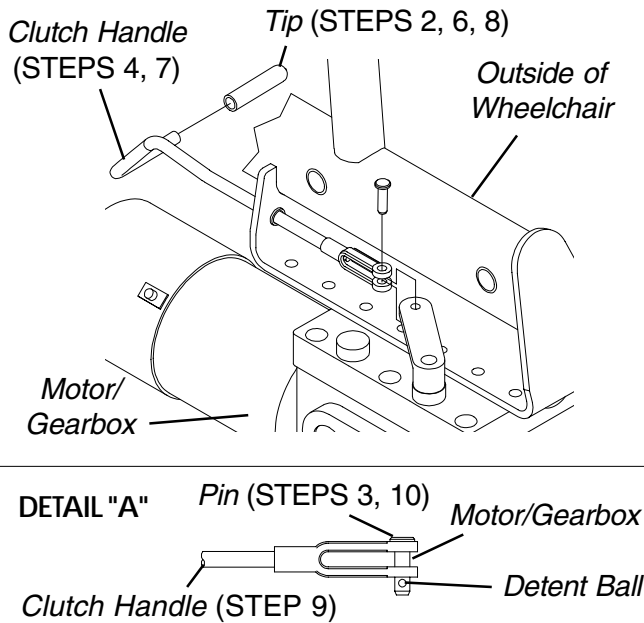

FIGURE 21 - REPLACING CLUTCH HANDLES - RANGER II FWD BASIC
REPLACING CLUTCH HANDLES - R2_{BASIC} AND R2_{JR} (FIGURE 21)
10. Insert the pin through the clutch handle and motor/gearbox as shown in DETAIL "A" in FIGURE 21.